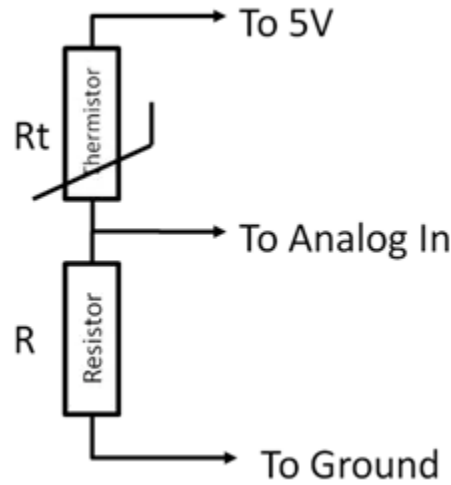

Figure 1. Voltage Divider [11]
**Interfacing** – since microcontrollers read voltages and not resistances, the simplest circuit to convert the resistance change, generated by the thermistor, to voltage change is a voltage divider (Figure 1). So, the variation of the resistance can be measure in the middle of the two, when the resistance changes, so does the voltage. [10][11]